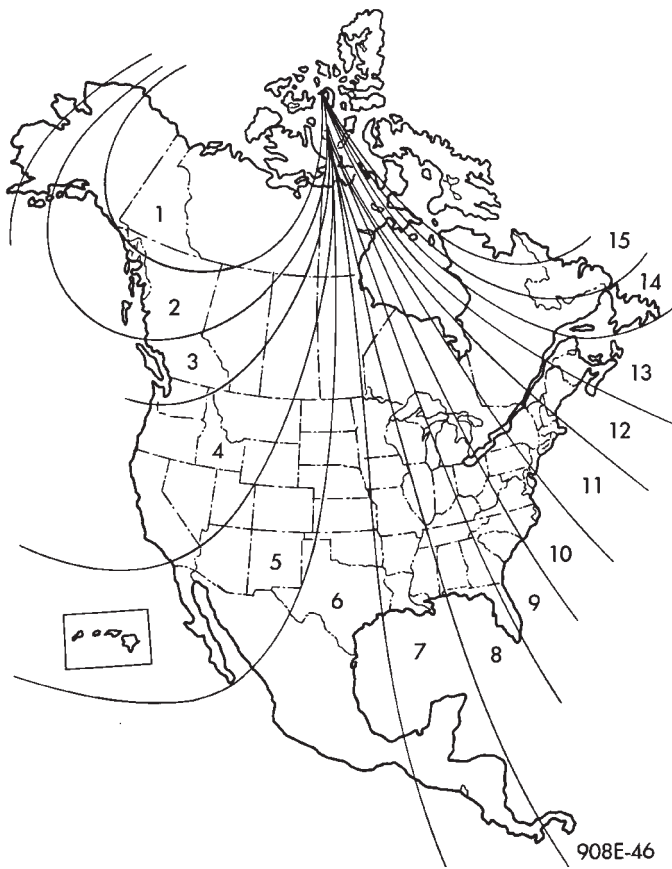

Fig. 4 Variance Settings
(1) Move away from any large metal objects like buildings, or bridges. With the engine running and the doors closed point vehicle true north. Press Comp/Temp button. The display will go blank. After approximately 5 seconds the display will reappear and be functioning normally.
(2) Preferred method. Toggle the US/METRIC button until the number which, corresponds with your geographic area appears (Fig. 4). Then press Comp/Temp button. The display will go blank. After approximately 5 seconds the display will reappear and be functioning normally.